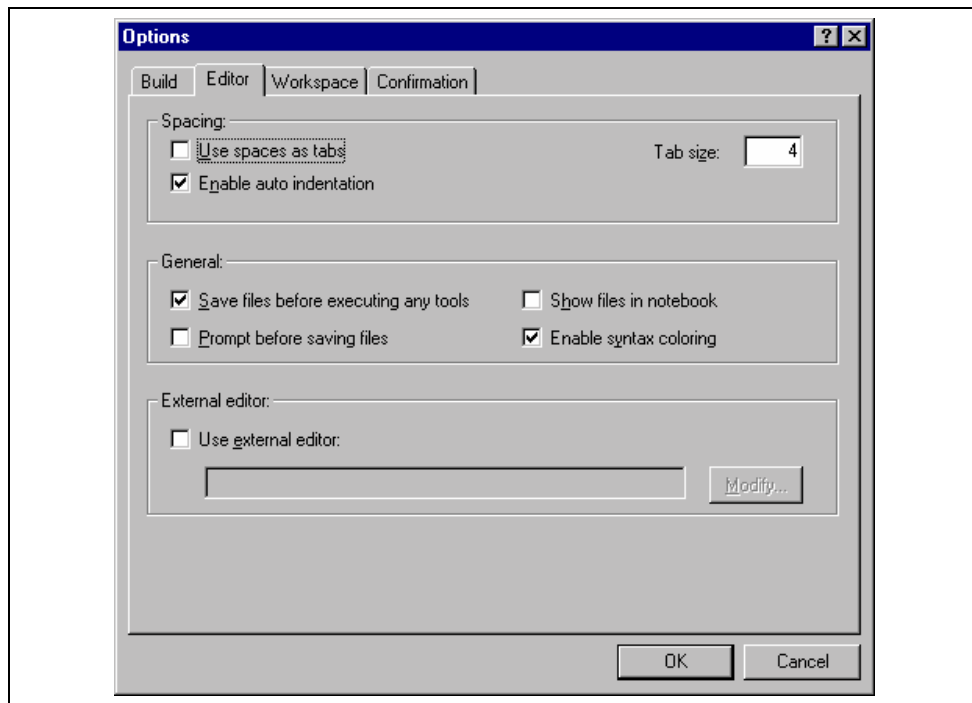

Figure 6.11: Options Dialog Editor Tab
1. Select **[Tools->Options...]**. The “Options” dialog will be displayed. Select the “Editor” tab (figure 6.11).
The Hitachi Embedded Workshop allows you to customize file save on the “Editor” tab of the “Options” dialog (figure 6.11). To open the tab, select **[Tools->Options...]** and click the “Editor” tab.